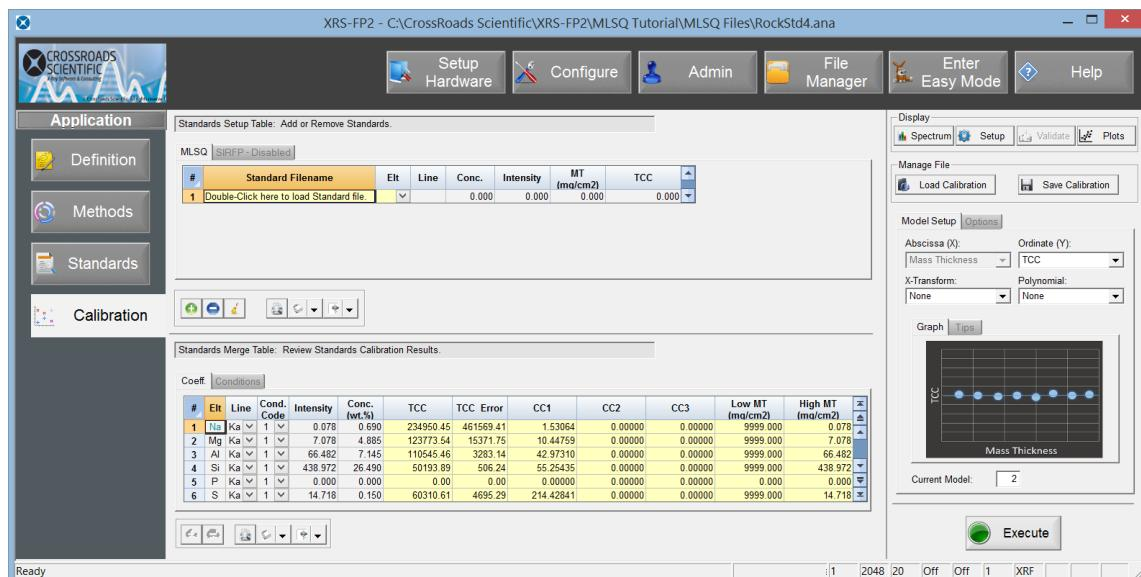

Figure 4. Application Workflow – Calibration. Select the “Calibration” button to move to the multipoint calibration (MLSQ) setup page.
14. Go to the Calibration workflow by selecting the **Calibration** button (Fig. 4 below).
4. Go to the **Definition** button. Enter the component information in the “Component Table” (see Fig. 4). For this first low-Z standard (“Al2O3Binder10”) enter the following components: “Al2O3” then click “enter” (which will fill the individual elements in the “Element Table”), then “H74C37ON” and “enter”. Set the “Concentration” to 90 and 10 wt.%, respectively.
Figure 4. Application - Definition. Note the component information of the low-Z standard is entered in the “Component Table” and the thickness is set to “Bulk” and “Normalized” to 100% in the “Layer Table”.
Note that the Layer “Type” is set to “Bulk” in the “Thickness Information” table (which is mandatory for use with an SIR-FP calibration) and it is “Normalized” to a “Total” of 100% (see Fig. 4 above).